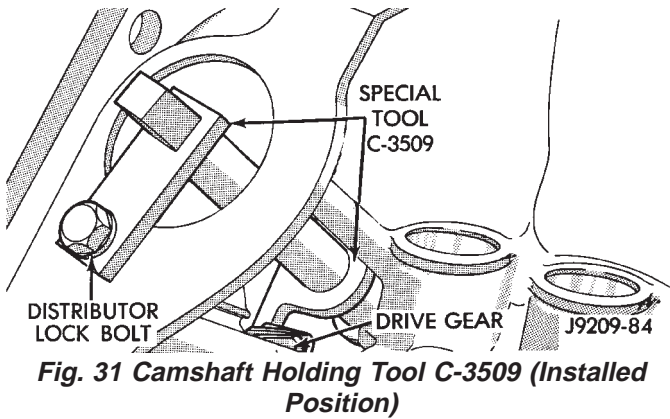

Fig. 31 Camshaft Holding Tool C-3509 (Installed Position)
(1) Lubricate camshaft lobes and camshaft bearing journals and insert the camshaft to within 51 mm (2 inches) of its final position in cylinder block.
(2) Install Camshaft Gear Installer Tool C-3509 with tongue back of distributor drive gear (Fig. 31).